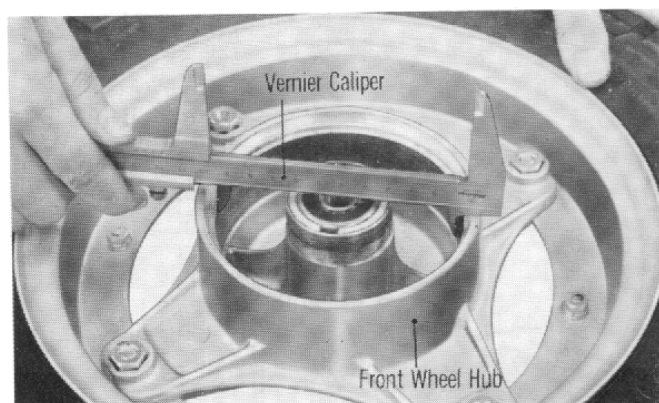

Fig. 77
- (1) Check brake drum inside diameter. (Fig. 77)